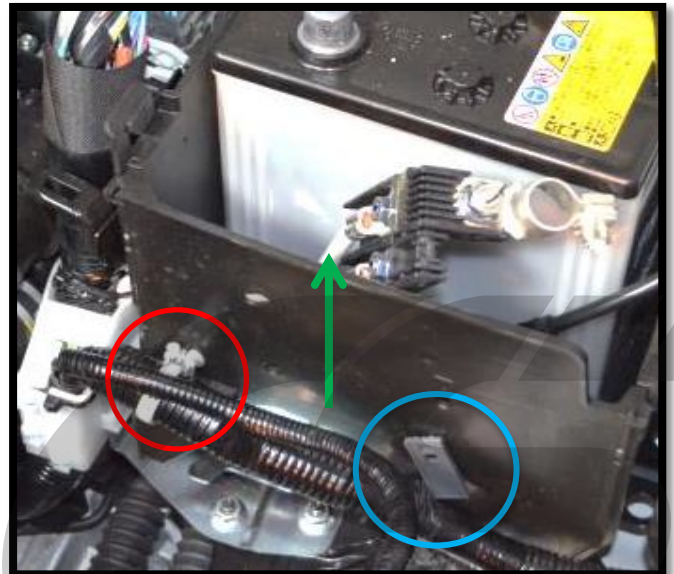

Figure 2c
e. **Remove the front battery box panel.** Remove the MAF wiring harness clip (**red circle** in **Figure 2c**), and negative battery cable clip (**blue circle** in **Figure 2c**) from the front battery box panel. Use needle nose pliers to compress the clips on the inside of the battery box. Then slide the panel upwards and remove it (**green arrow** in **Figure 2c**).